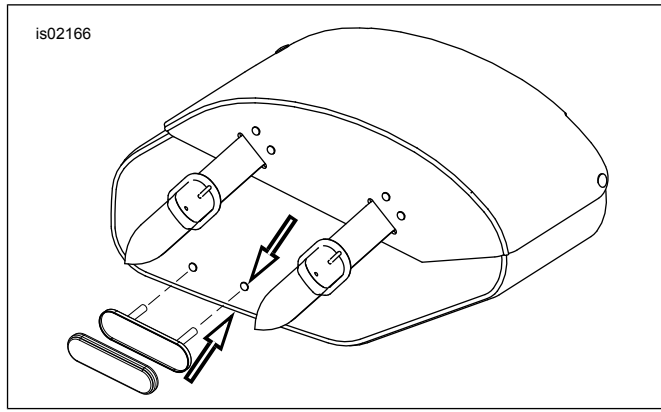

Figure 1. Install Reflector
8. See Figure 1. Measure approximately 1-1/2 in (38 mm) from the bottom edge of the saddlebag. Orient the reflector horizontally and carefully center the reflector mount between the straps of bags with straps or locate it at the rearward portion of bags without straps. Gently press reflector mount to saddle bag so paint marks transfer and punch or drill small holes through saddlebag where paint marks transferred to saddlebag.